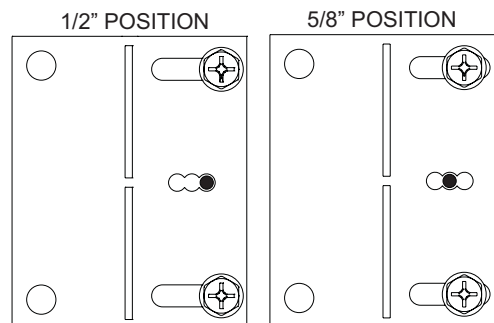

Figure 23
3. If necessary, the positions of the side nailing flanges can be adjusted by loosening (but do not remove) the top and bottom screws, anchoring the bracket in place using a center screw from the hardware pack, and re-tightening the top and bottom screws. **See Figure 23.**